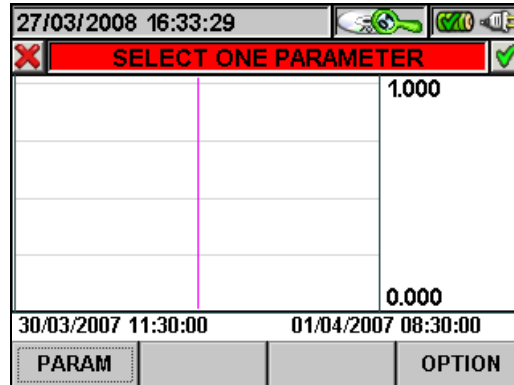

Fig. 90: Selecting a parameter
- The **ESC** key (or smart icon ) to exit the function and go back to the “Selecting a parameter” page (Fig. 90).
3. Press the **ESC** key (or the smart icon ) to exit the function and go back to the “Selecting a parameter” page (Fig. 90).